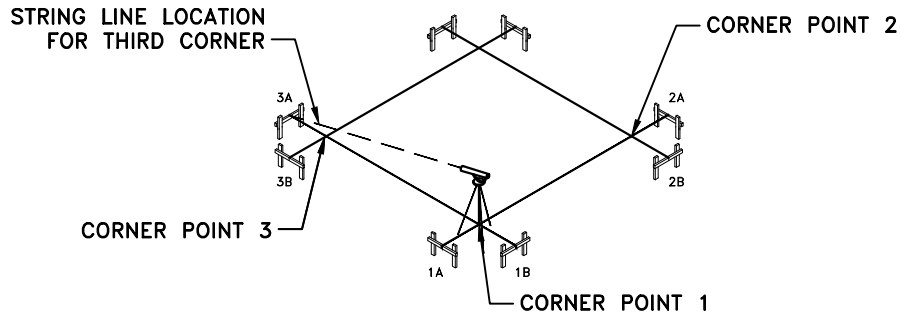
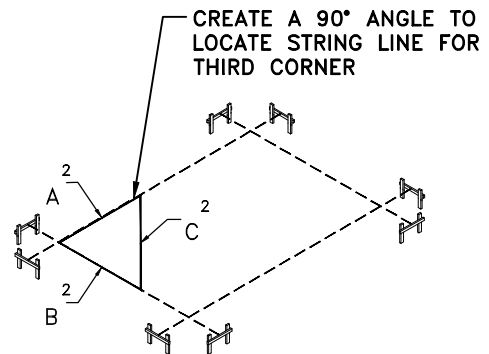

FIGURE 2 - LOCATING CORNER POINT 3
FIGURE 4 - TRIANGLE METHOD
5. TO LOCATE THE THIRD CORNER POINT (FIG 2), YOU MAY USE ONE OF TWO METHODS, THE DIAGONAL METHOD OR THE TRIANGLE METHOD.
THE TRIANGLE METHOD - CREATE A 90° ANGLE FROM THE FIRST LINE USING CORNER POINT 1 AS A VERTEX. THIS ANGLE MAY BE ACCOMPLISHED BY USING TWO TAPE MEASURES AND THE CHART LISTED BELOW (SEE FIGURE 4) (USE THIS METHOD FRO LARGER BUILDINGS WHERE THE LENGTH OF THE DIAGONAL EXCEEDS THE 100 FOOT TAPE MEASURE). WHEN YOU'VE LOCATED CORNER POINT 3, PULL YOUR SECOND LINE BETWEEN BATTER BOARD "1B" AND BATTER BOARD "3B" MAKING SURE IT PASSES OVER CORNER POINT 1 AND CORNER POINT 3. CHECK WITH TRANSIT MAKING SURE THAT BATTER BOARDS AND LINES ARE LEVEL (SEE FIG. 2.)